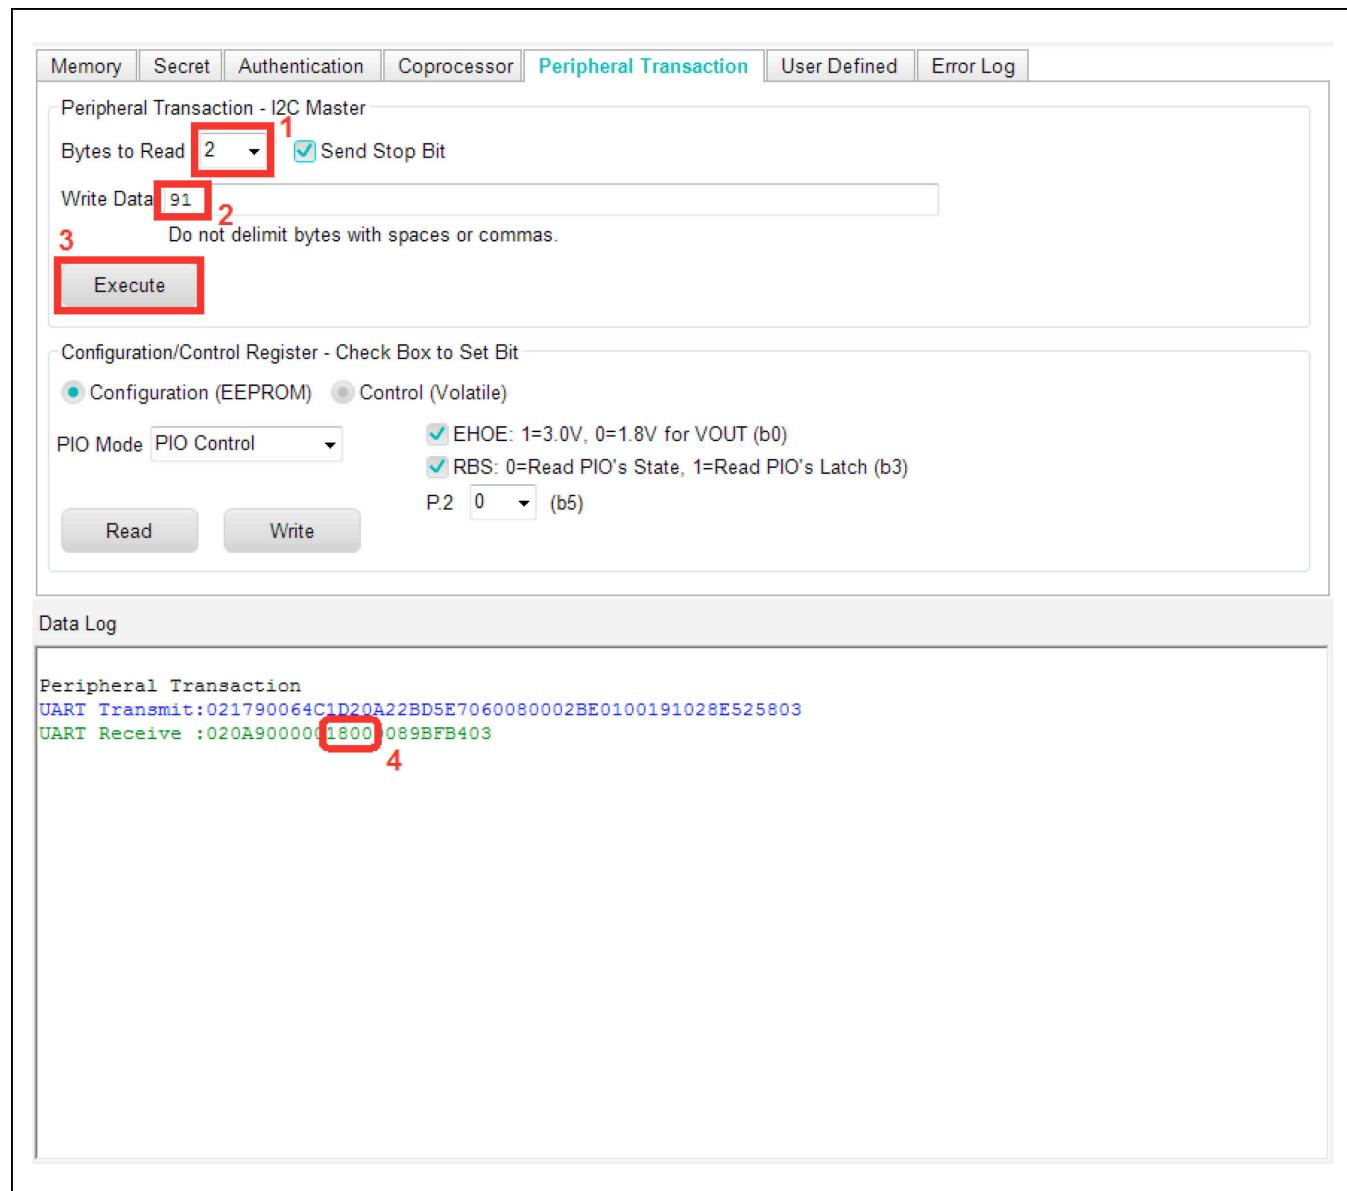

Figure 42. Temperature Read Button
- 5) First, set the **Bytes to Read** to-be '2'. Second, set the I²C address in the **Write Data** field to be '91h' (with read bit set). Third, click the **Execute** button. Fourth, verify the temperature returned from the I²C bus. In this example, the bytes '1800h' read corresponds to a temperature of 24.0°C from the DS75S (Figure 42)